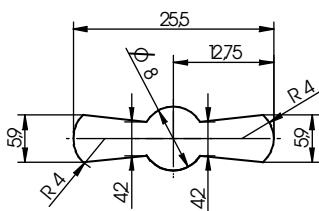

Fig. 1: Key guide 86101
- Use of the Kaba Mauer key guide (see Fig. 1) or of the Kaba Mauer key carrier guide (see Fig. 2) is recommended. Considering DIN 2768-mH, the keyhole in the door of the secure storage unit should be dimensioned accordingly (see Fig. 1 or 2).